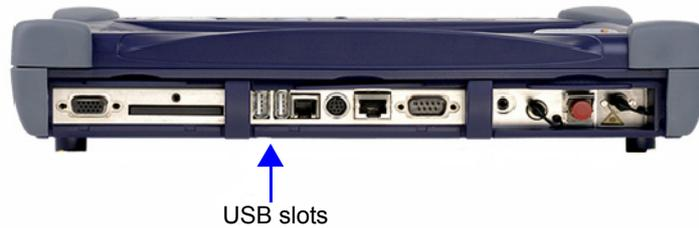
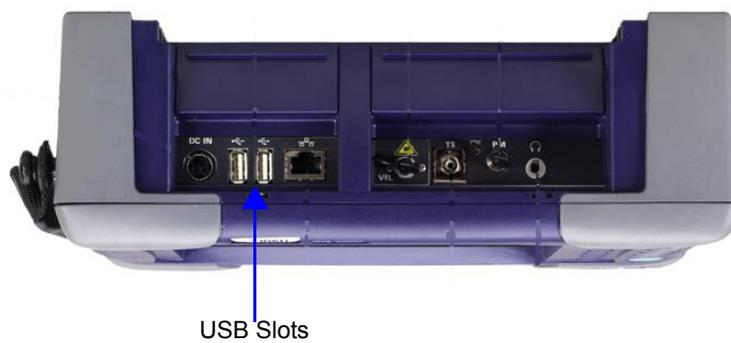

Figure 3 T-BERD /MTS 8000 USB slots
Figure 4 T-BERD /MTS 6000A USB slots
- 1 Insert the USB memory stick into one of the USB slots on your base unit (see Figure 3 and Figure 4), and then listen for an audible beep (indicating that the base unit recognized the USB memory stick).